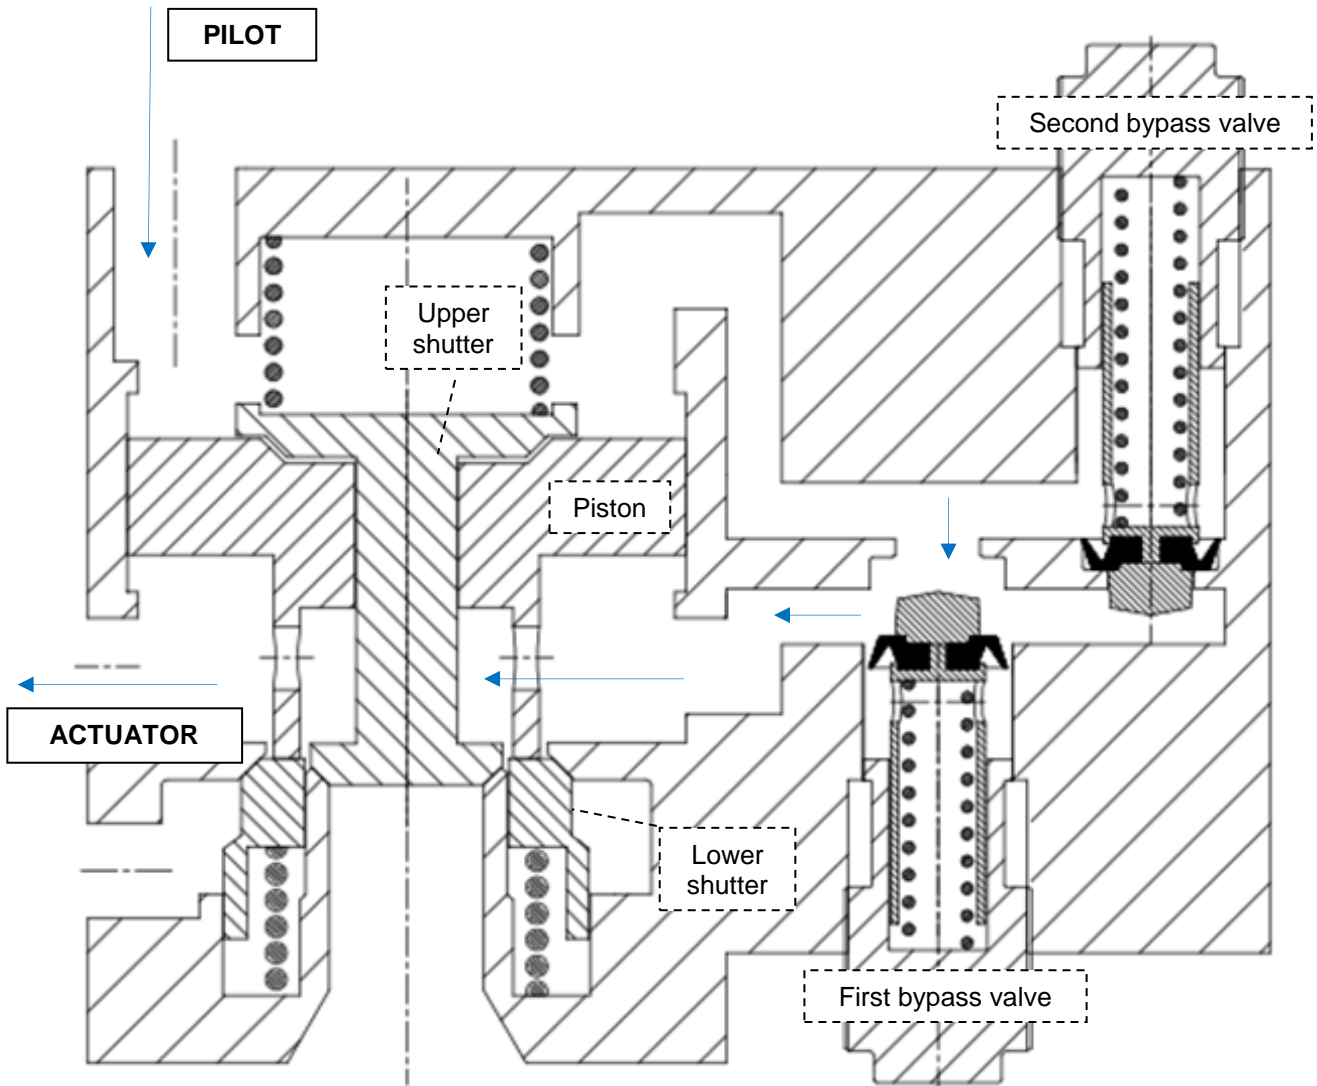
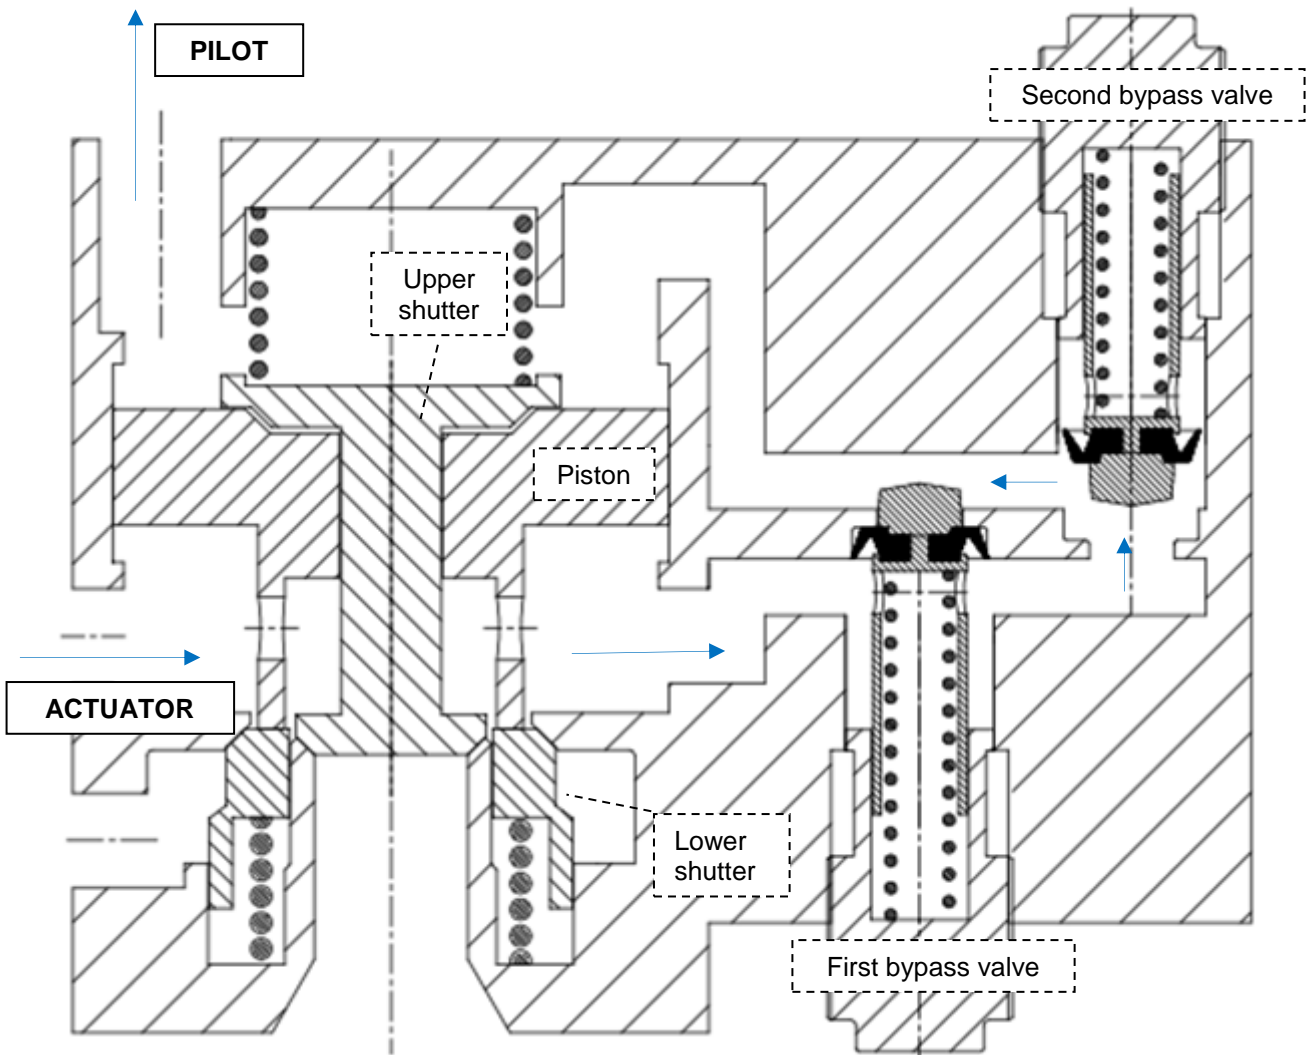

Figure 4 - supply setup: stand-by mode (sketch)
Figure 7 - exhaust setup: stand-by mode (sketch)
The Big Volume Booster BW has 2 main setups: supply amplification (figure 4, 5, 6) and exhaust amplification (figure 7, 8, 9). The two bypass valve may create a pressure drop depending on their adjustment and the working fluid flow rate: the first one is used only for the supply amplification, the second one only for the exhaust amplification.
- a) if the flow rate is lower than a threshold value depending on bypass valve adjustment, the bypass valve throttling can't generate a pressure drop between the two side of the piston and the working fluid goes to the actuator chamber. This case is called "setup mode" (figure 4);
- a) if the flow rate is lower than a threshold value depending on bypass valve adjustment, the bypass valve throttling can't generate a pressure drop between the two side of the piston and the working fluid goes to the pilot. This case is called "setup mode" (figure 7);